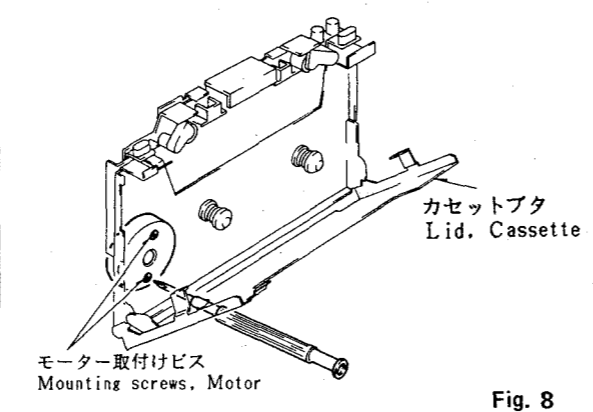

Fig. 8
- 3) Remove the 2 motor screws as shown in the figure. (See Figure. 8)